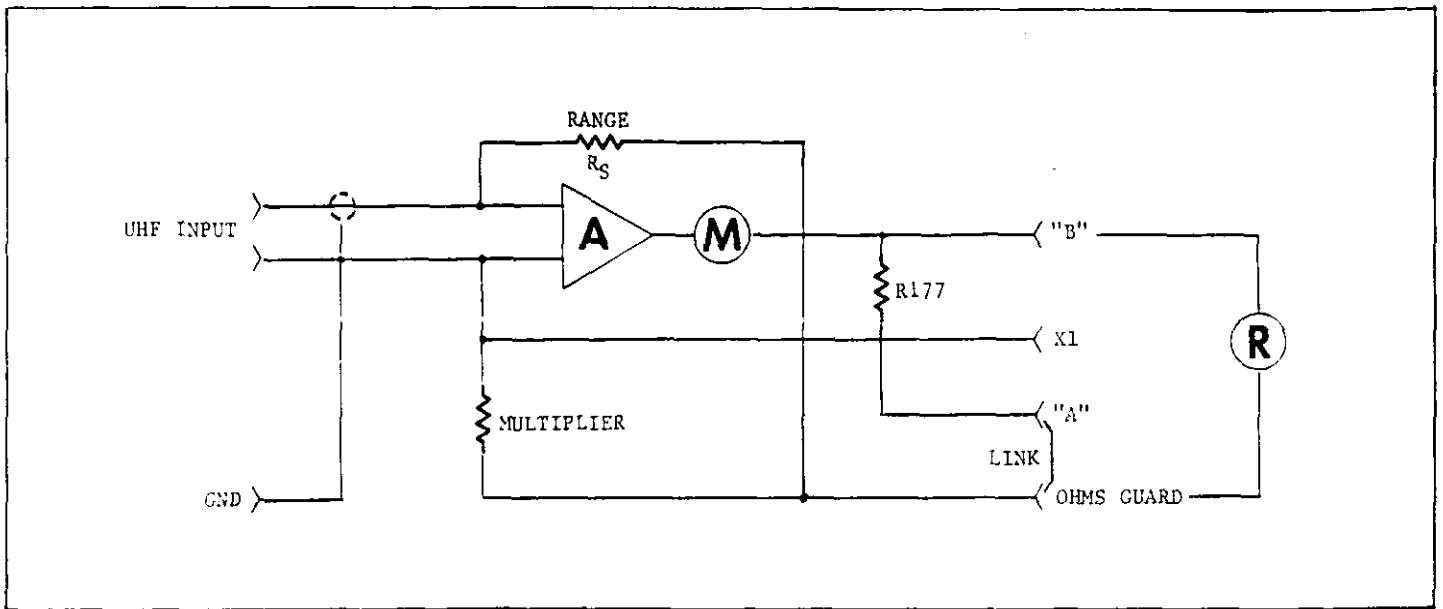

FIGURE 10. Block Diagram of Fast Mode Picoammeter.
a. Normal Method. In the normal method of current measurements (FEEDBACK Switch in NORMAL position), one of the Range Switch resistors, R136 through R146, shunts the input. (See Figure 10). The Model 600B then measures the voltage drop across the resistor. The meter is calibrated to read the current in amperes for the appropriate range.
fed back to the amplifier input through a feedback resistor selected with the Range Switch. (See Figure 10). Floating ground is connected to the low impedance side of the input, and the output ground is floating. This method increases the response speed by minimizing the effects of input capacity; it also reduces the input drop to less than 1 millivolt.
3-6. COULOMBMETER OPERATION. The Model 600B circuit for measuring charge is similar to that used for an ammeter with the fast method. A negative feedback is applied around a shunt capacitor, C110 to C113, selected with the Range Switch. The shunt capacitor replaces R_S in Figure 10. The stored charge is proportional to the voltage across the capacitor, which is measured by the Model 600B voltmeter circuits.